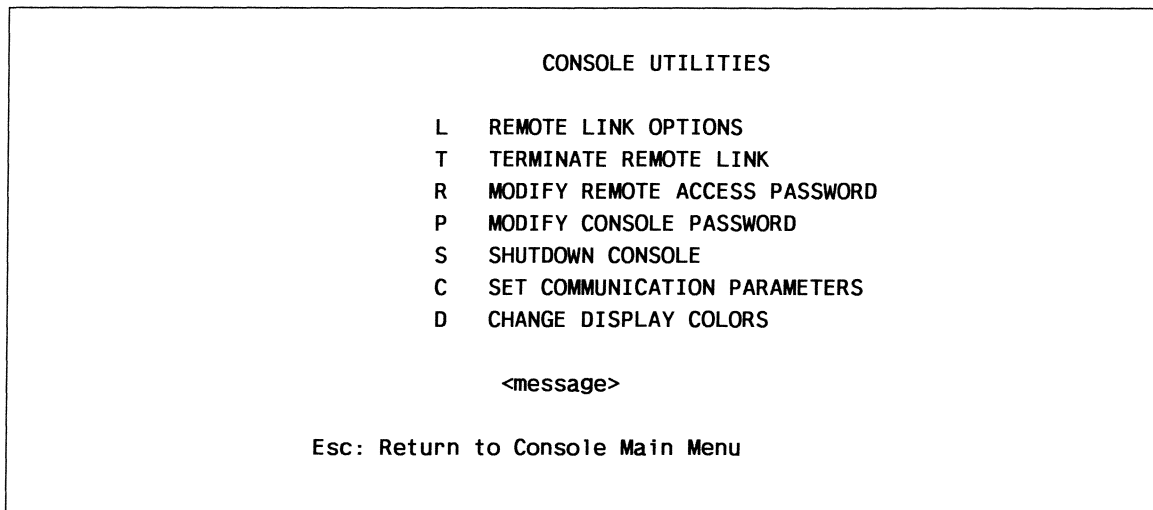

Figure 2-24. Console Utilities Display
Selection of the Console Utilities display brings up six selections as shown in figure 2-24. Each selection can be accessed by pressing the corresponding key. These selections appear on the system console only, and do not appear on the remote link console. The Console Utilities display contains a status message line about the current activity. These self-explanatory messages notify the user of current operations within the console. **Ctrl-Fx** key sequences are not allowed in these menus.
Selection of Console Utilities (C) displays the menu in figure 2-24.
To select a Console Utilities display option (figure 2-24), press the appropriate key.